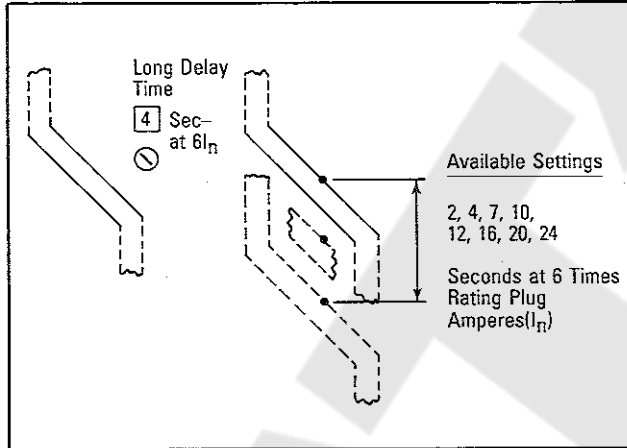

Fig. 4.2 Long Delay Time Settings
Eight (8) available settings, as illustrated in Fig. 4.2, range from 2 to 24 seconds. These settings represent total clearing times at a current value equal to six (6) times the installed rating plug ampere rating ( $I_n$ ).